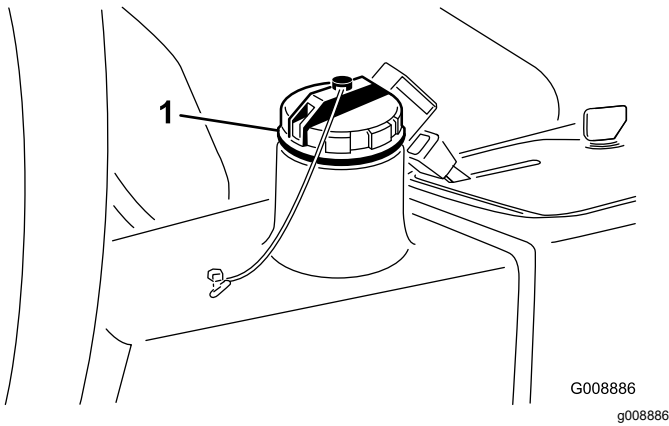

Figure 25
2. Clean the area around the filler neck and cap of the hydraulic tank (Figure 25). Remove the cap.